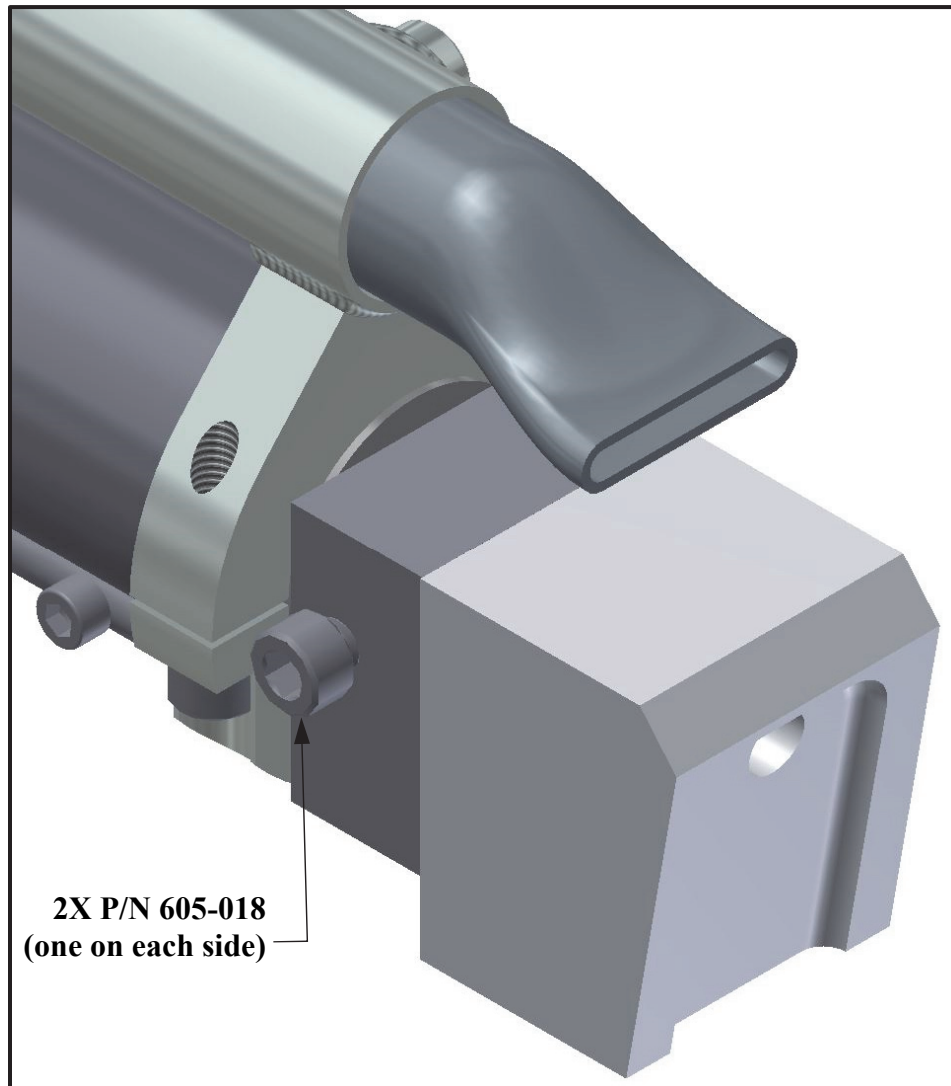

Figure 8.4
- a. Using a 5mm hex wrench remove the two socket head cap Screws, part number 605-018, from the Welding Shoe Assembly. The Shoe Assembly may be one of the following: TS-605-B/A, TS-605-60/A or TS-605-0500/A (see Figures 8.4 and 8.5).